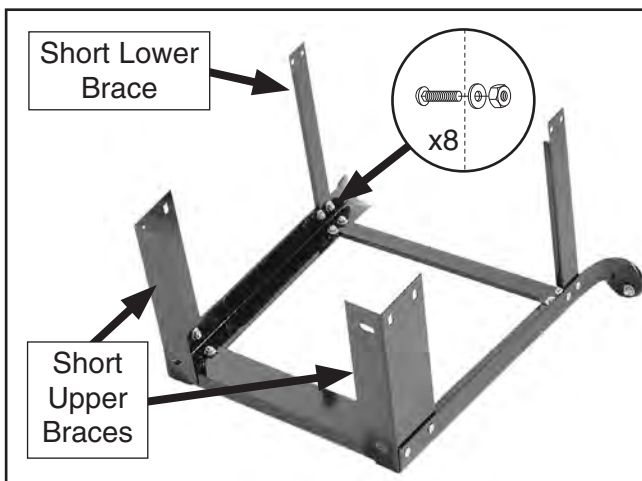

Figure 17. Short upper and lower braces fastened to leg assembly.
5. Fasten the two short upper braces and the two short lower braces to one of the leg assemblies with the (8) $\frac{5}{16}$ "-18 x $\frac{1}{2}$ " carriage bolts, $\frac{5}{16}$ "-18 hex nuts, and $\frac{5}{16}$ " flat washers, as shown in **Figure 17**.